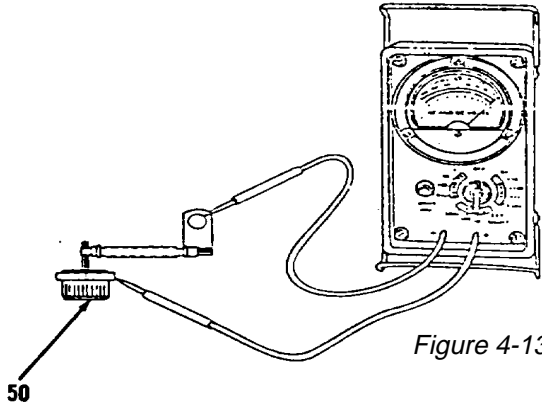

Figure 4-13.
- 5. Using ohmmeter set to lowest range, test three positive diode wire assemblies (50, Figure 4-13). Touch one test wire to the positive diode casing and the other wire to the terminal, then switch test wires. Meter should indicate one high and one low reading. Replace three positive diode wire assemblies (50) if readings are the same.